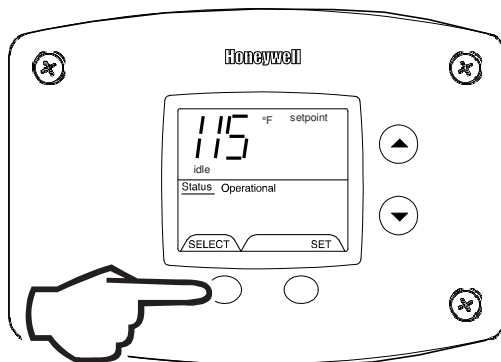

Fig. 48
1. In 'Service Mode' press the 'Select' button until 'Setpoint' is shown in the water heater display (Fig. 48).